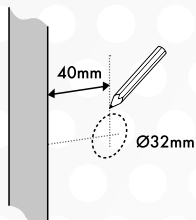

Fig. 1
1. At the required height of the door lock, using a pencil place a mark which is exactly 40mm from the edge of the door. At that point, drill a 32mm diameter hole straight through the door (Fig.1).